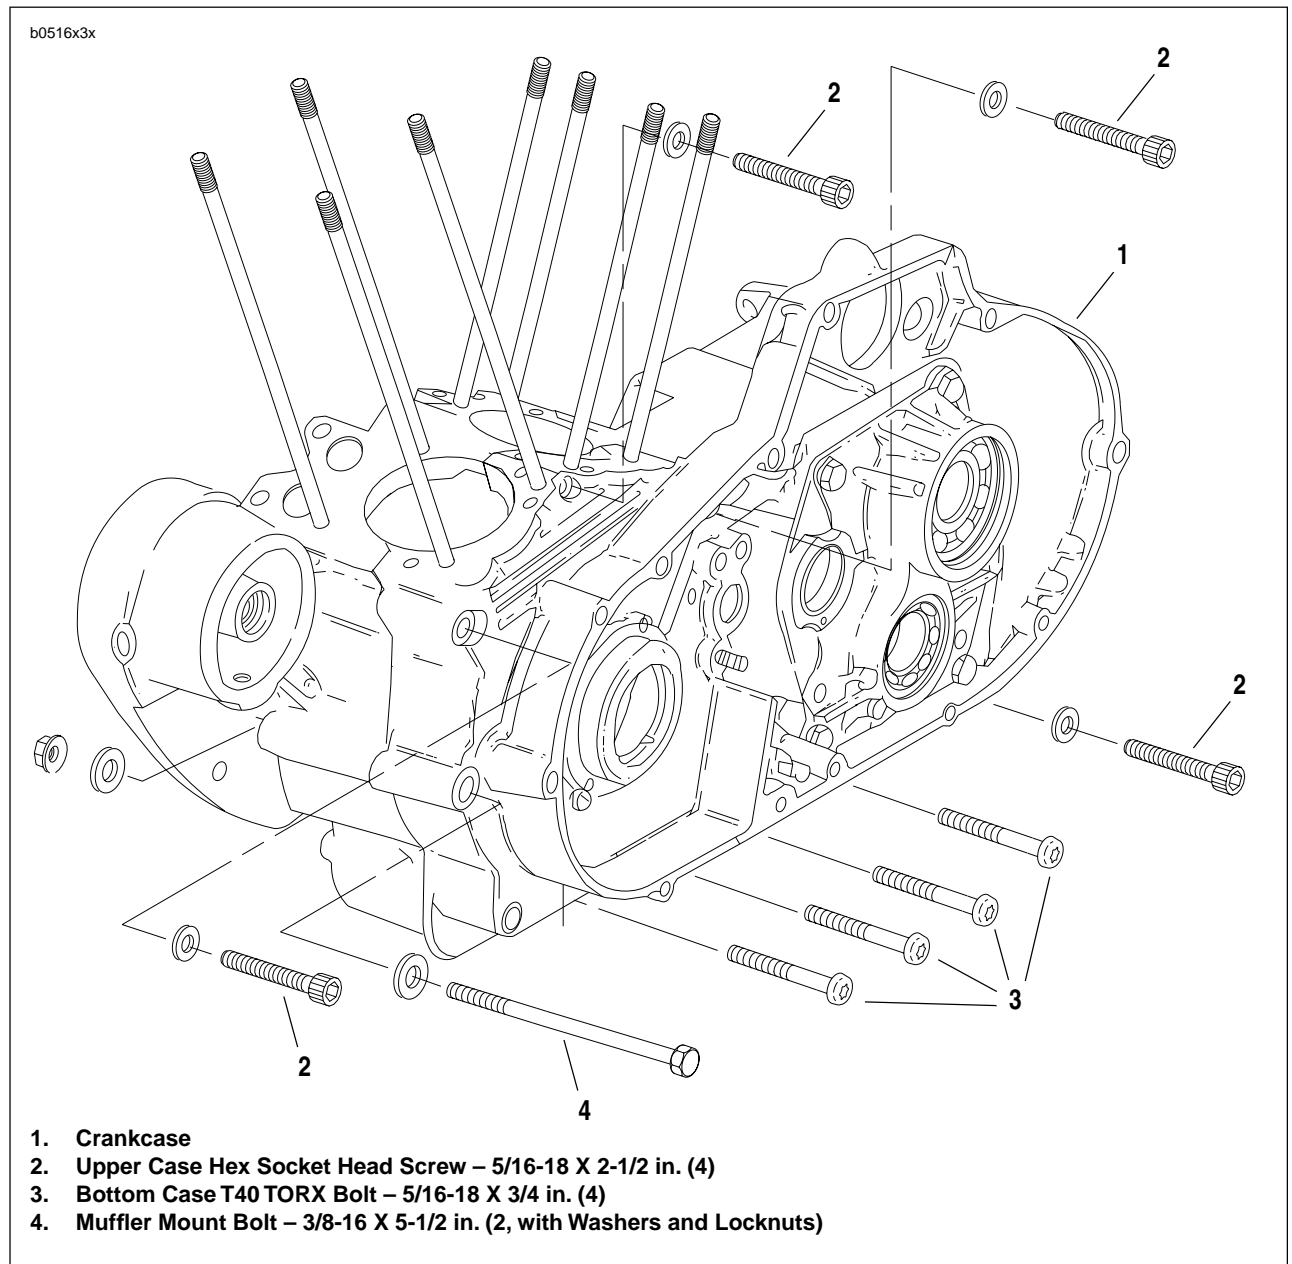

Figure 3-73. Crankcase Hardware (Typical)
8. See Figure 3-73. Remove screws and rear engine mount bolt securing crankcase halves together.